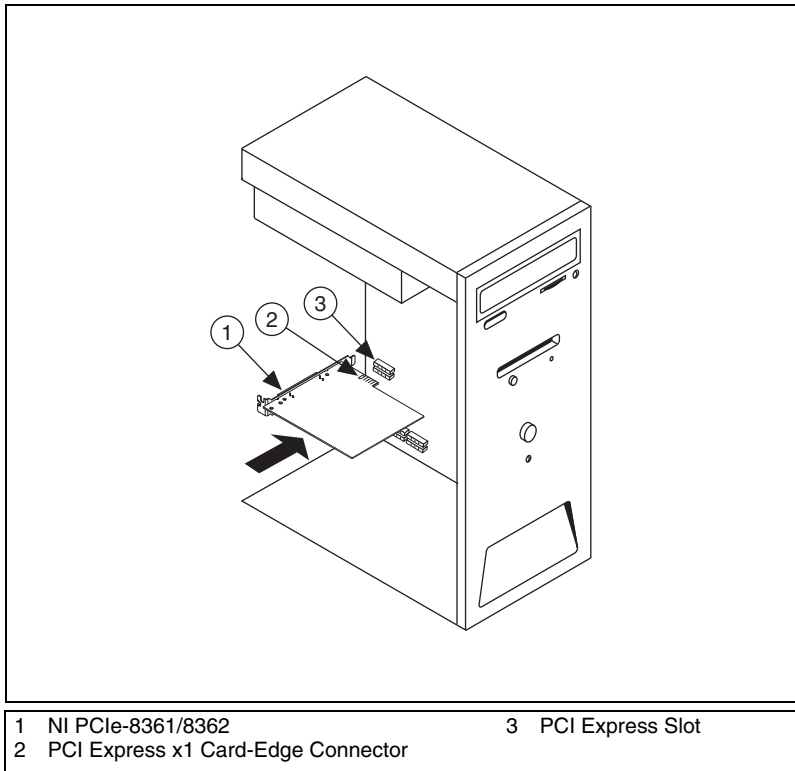

Figure 1. NI PCIe-8361/8362 Card Installation Example
7. Line up the NI PCI-8361 or NI PCIe-8361/8362 with the slot on the back panel, as shown in Figure 1. Slowly push down on the top of the NI PCI-8361 or NI PCIe-8361/8362 until its card-edge connector is resting on the expansion slot receptacle. Using slow, evenly distributed pressure, press the NI PCI-8361 or NI PCIe-8361/8362 straight down until it seats in the expansion slot.
Note Figure 1 shows a PCI Express based card installation. The same procedure applies for a PCI card and slot.